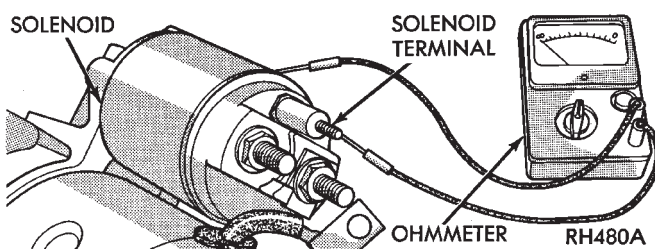

Fig. 20 Continuity Test Between Solenoid Terminal and Solenoid Case —Bosch
(3) Check for continuity between solenoid terminal and solenoid housing (Fig. 20 or 21). Continuity should be detected. If continuity is detected, solenoid is good.
(4) If continuity is not detected in either test, solenoid has an open circuit and is defective. If equipped with: